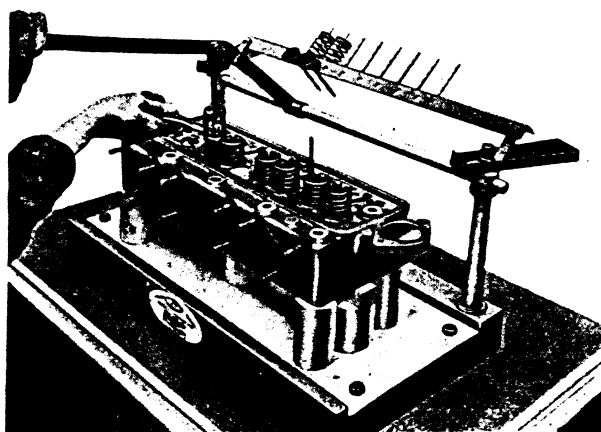

FIG. 8
4. Mount cylinder head assembly on service fixture FTB9, with pegs located in end stud holes. Adjust the position of the strut to obtain a vertical pull on collar. Compress valve springs and remove split cones. Valves and springs should be placed in order of removal on stand as shown in Fig. 8.